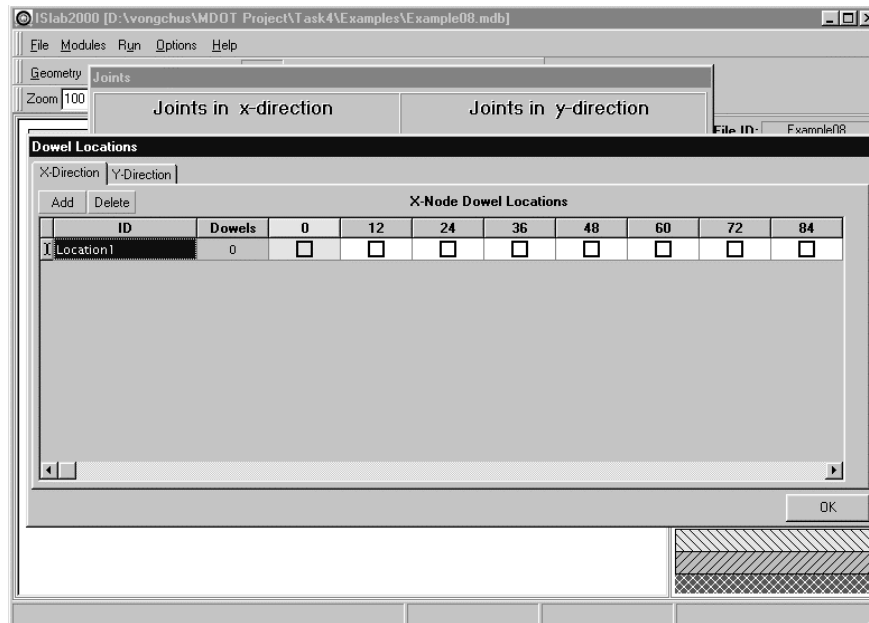

Figure E8-7: Edit Inputs for the Joints Module (continued)
Step 3: Under **Joints in y-direction**, select **Specify joint parameters**, select **Doweled** in the **Joint type** field, and then click **Edit Dowel Locations** to open the dowel locations panel (see Figure E8-7.)